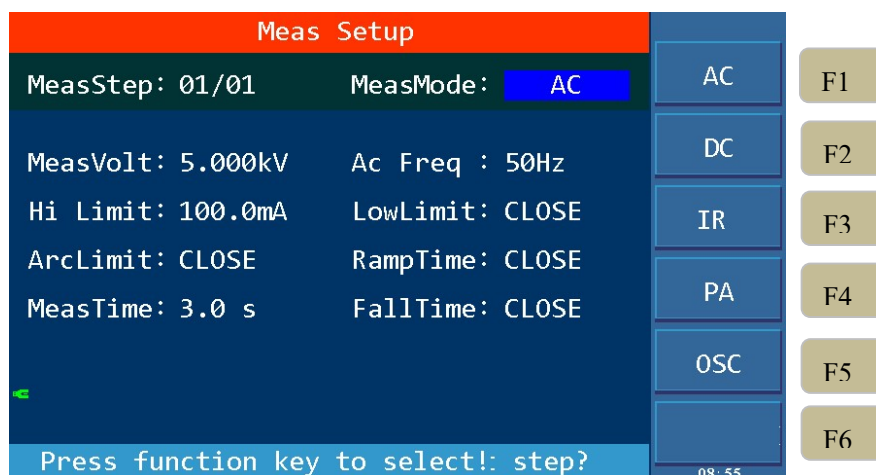

Figure 4-12 Meas Mode Setup
3. Press the right arrow key to move the cursor to the test mode option, as shown in Figure 4-12, uses the F1~F5 keys to select whether the test mode is AC withstand voltage, DC withstand voltage, insulation resistance, pause mode or open short circuit detection OSC.